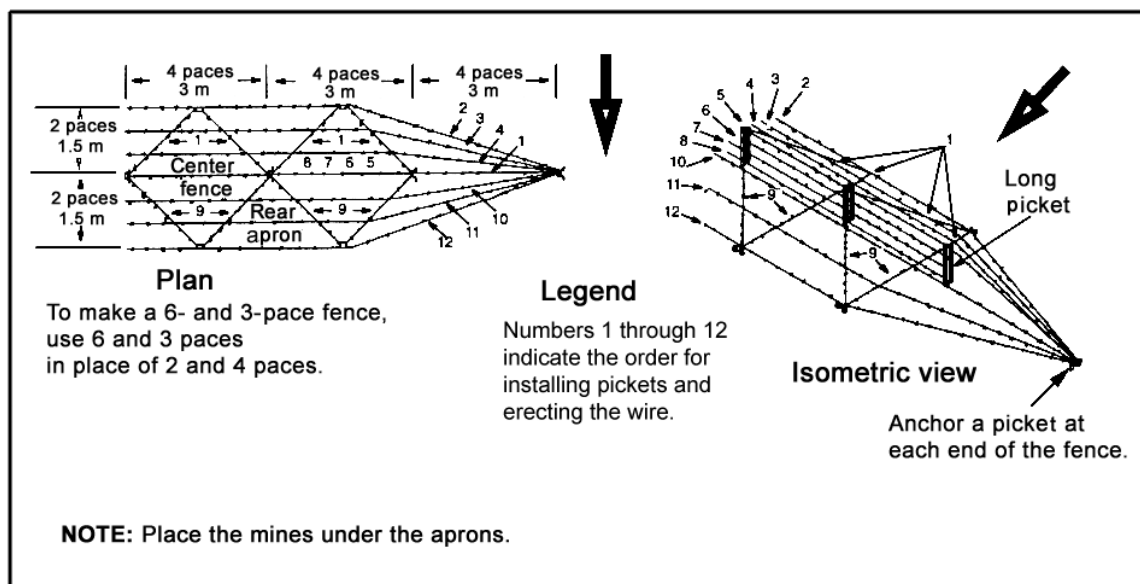

Figure 052-195-3066-1
- (1) The fence centerline is laid.
- (2) The long pickets are spaced at 3-meter (4-pace) intervals.
- (3) The anchor pickets are spaced at 1.5-meter (2-pace) intervals each way from the centerline and midway between the long pickets.
- (4) All 12 wires are installed. Ensure that work is done from the enemy side to the friendly side (Figure 052-195-3066-1).